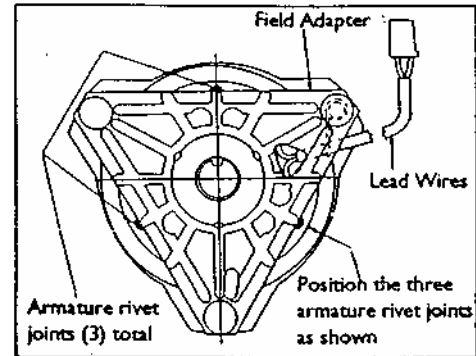

figure 1
2. Locate the three rivet joints which fasten the leaf springs to the armature, (figure 1)
3. Rotate the pulley until these rivet joints are located midway along the edge of the triangular field adapter, (figure 1)